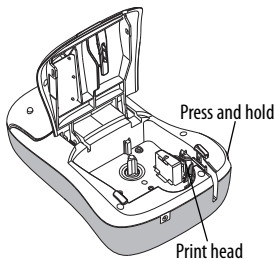

Figure 6
- 2 Press and hold the cutter button to expose the cutter blade. See Figure 6.
See Figure 6.